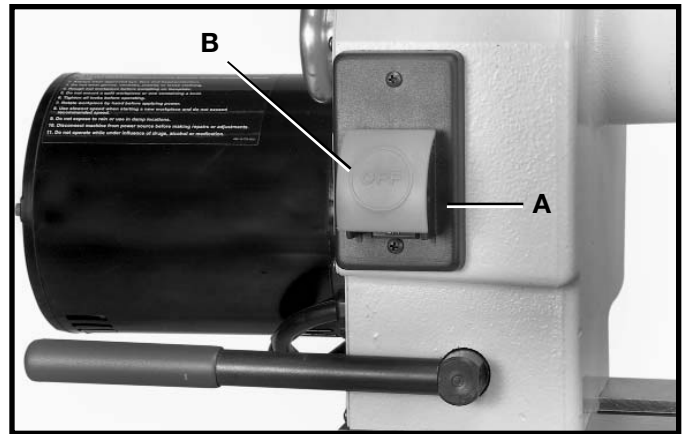
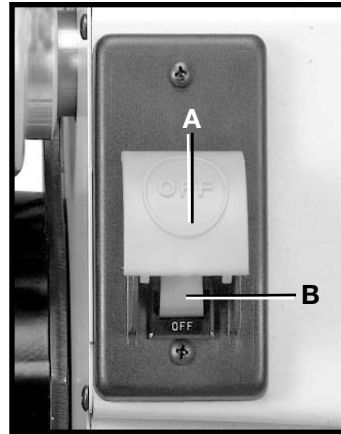

Fig. 18
Fig. 19
The switch (A) Fig. 18 provides electrical power to the adjustable speed drive. Lift the safety cover (B), and move the switch to the “up” position. To turn the power off, simply push the safety cover (B) down. **NOTE: In case of emergency, immediately push the safety cover (B) down to shut off power.**
Fig. 18 shows the switch with safety cover down in the “OFF” position. Fig. 19 shows the lathe in the “ON” position (switch cover (A) up and switch (B) up).